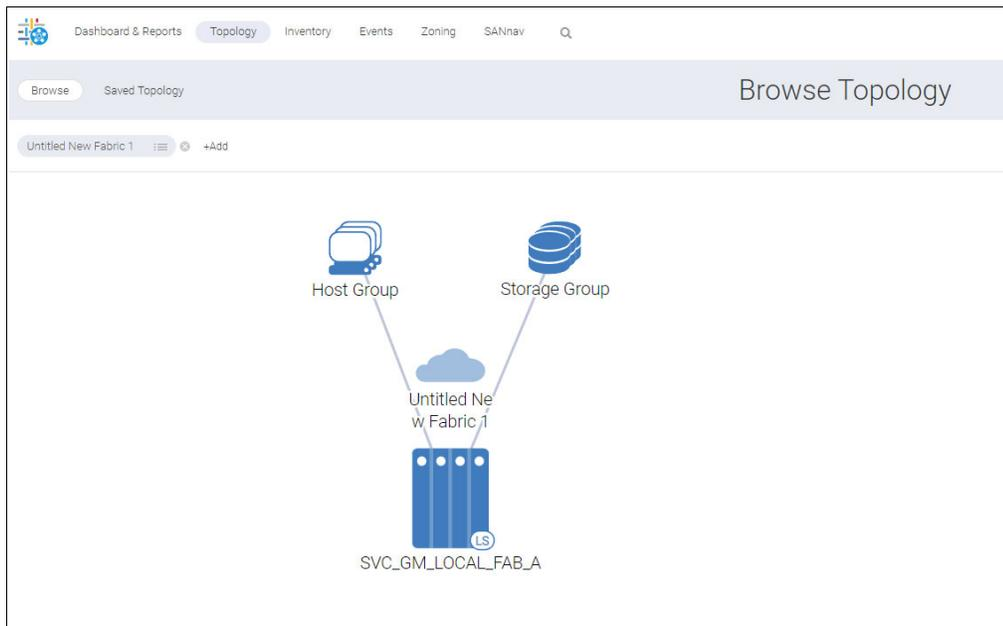

Figure 5-91 All end devices topology
4. Hover your cursor over the fabric icon, click the hamburger icon, and select **Show End Devices** (Figure 5-91).